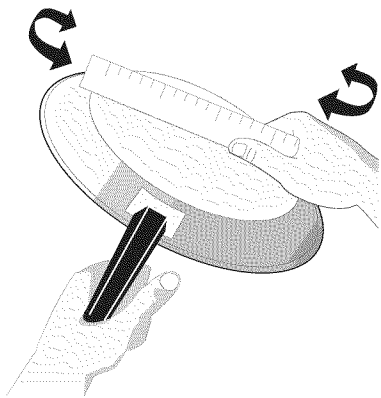

Figure 4: Check for level-bottomed cookware
- Cookware should have flat bottoms that make good contact with the entire cooking zone area. Check for flatness by rotating a ruler across the bottom of the cookware (Figure 4).